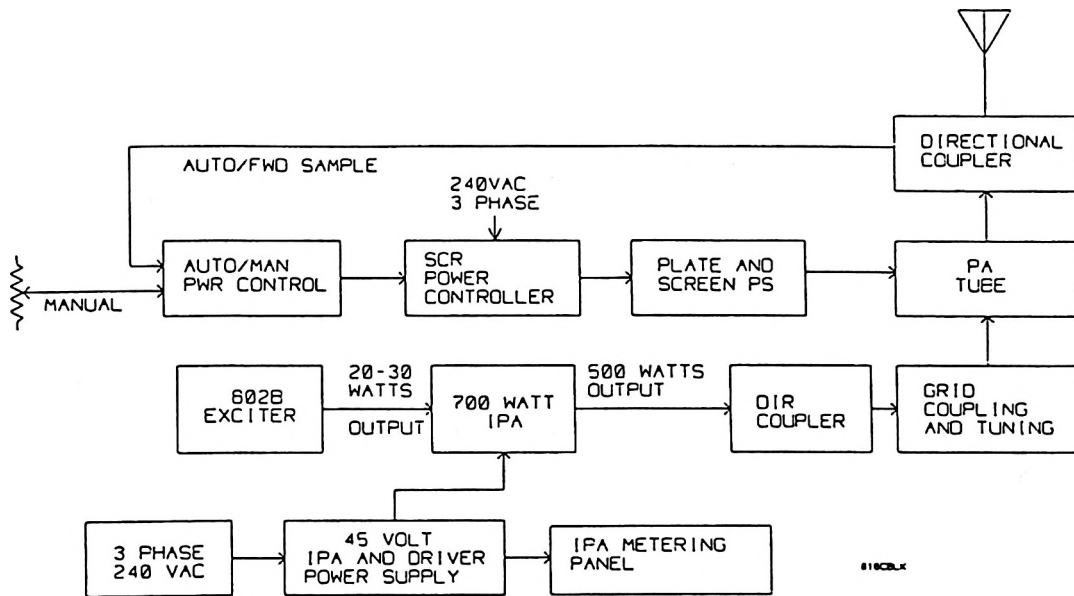

Figure 2, 816R Functional Block Diagram
Refer to Figure 2, an input signal (monaural, stereo composite, or SCA) is supplied to the exciter. The exciter's RF output drives a two stage power amplifier. The first stage, the intermediate power amplifier (IPA), amplifies the input to a level of 500 Watts. The last stage, the RF power amplifier, amplifies the RF signal to the transmitter's rated power output. The power amplifier is followed by a low pass filter and a directional coupler which is connected to the station's antenna system. A dc sample of the forward power from the directional coupler (DC1) is monitored by the auto power control circuit. If a change in output power is detected, a signal is sent to the power control board that increases or decreases the plate and screen power supply input voltage to compensate. A sample of the reflected power is also monitored by the power control circuits. If an excessive amount of reflected power is detected, the control circuits remove the transmitter plate voltage. The 28 V dc power supply provides power for the control circuits.
Refer to Figures 2 and 4 for a simplified diagram of the RF drive path. The drive path consists of the exciter A4, intermediate power amplifier (IPA) A3AR1 with its directional coupler A3DC1, coupling capacitor A12C1, and power amplifier (PA) V1 with its grid tuning components A12C3, A12L1-L3, and A12C2.